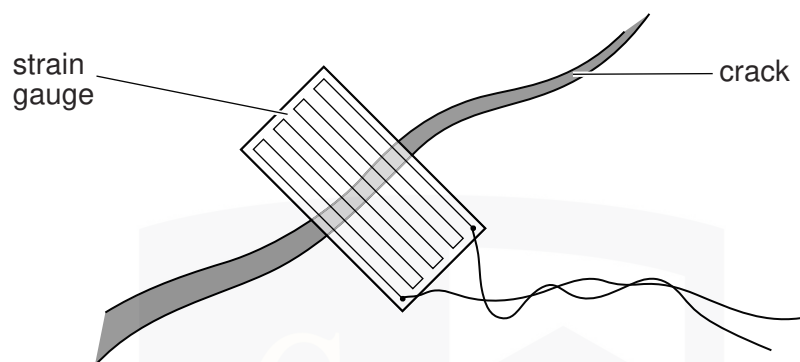

Fig. 9.1
- 8 A metal wire strain gauge is firmly fixed across a crack in a wall, as shown in Fig. 9.1, so that the growth of the crack may be monitored.